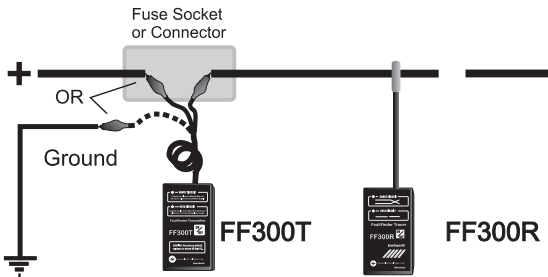

Fig.4 - Set up for tracing open circuits or identification of wires
- Tracing wires upstream (from load to supply): If more convenient, wires can also be traced the other way around, by replacing the load with the FF300T (Fig. 4 of Hook Up reference chart). To do this, first remove power from the circuit, disconnect load and connect the FF300T in its place. Apply power to the circuit and follow instructions in section 6 – Locating Short Circuits.